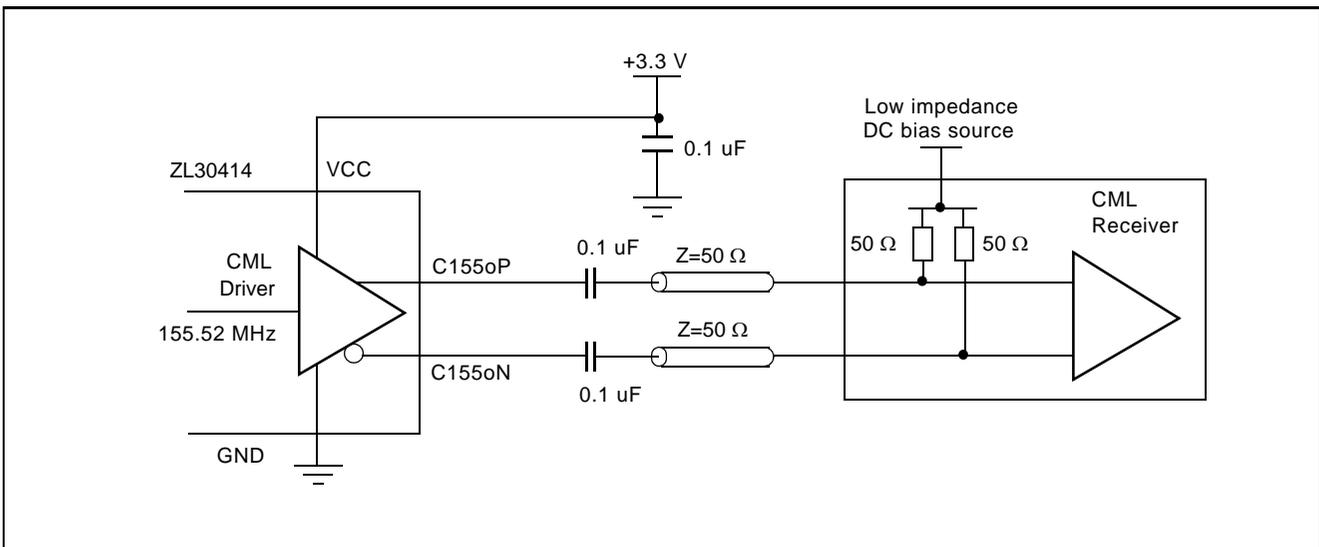

Figure 9 - CML to CML Interface
- Note 3: CML outputs terminated with  $Z_T = 50 \Omega$  resistors connected to low impedance DC bias voltage source (see Figure 9)